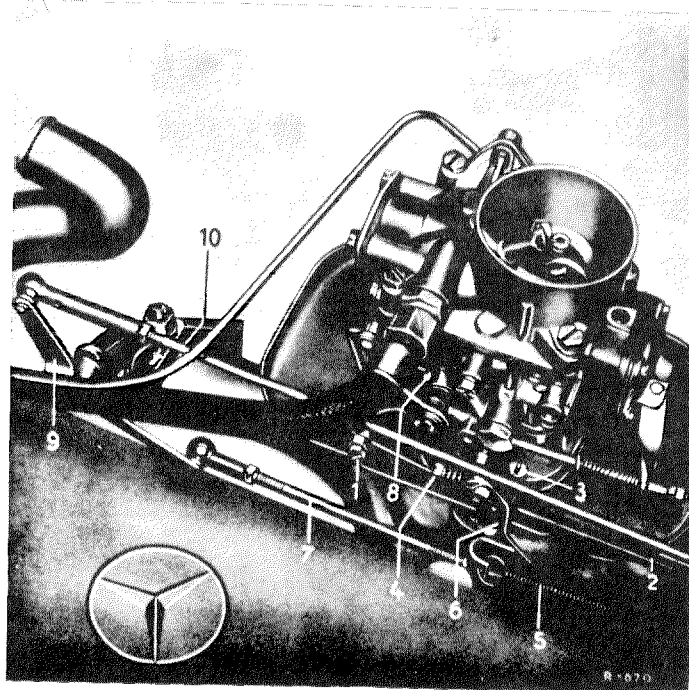

Fig. 30-6/5
12. Push the hot start control toward the inside by means of the control knob (7) until there is a distance of approx. 2 mm between the control knob (7) and the guide screw (5) (see Fig. 30-6/1).